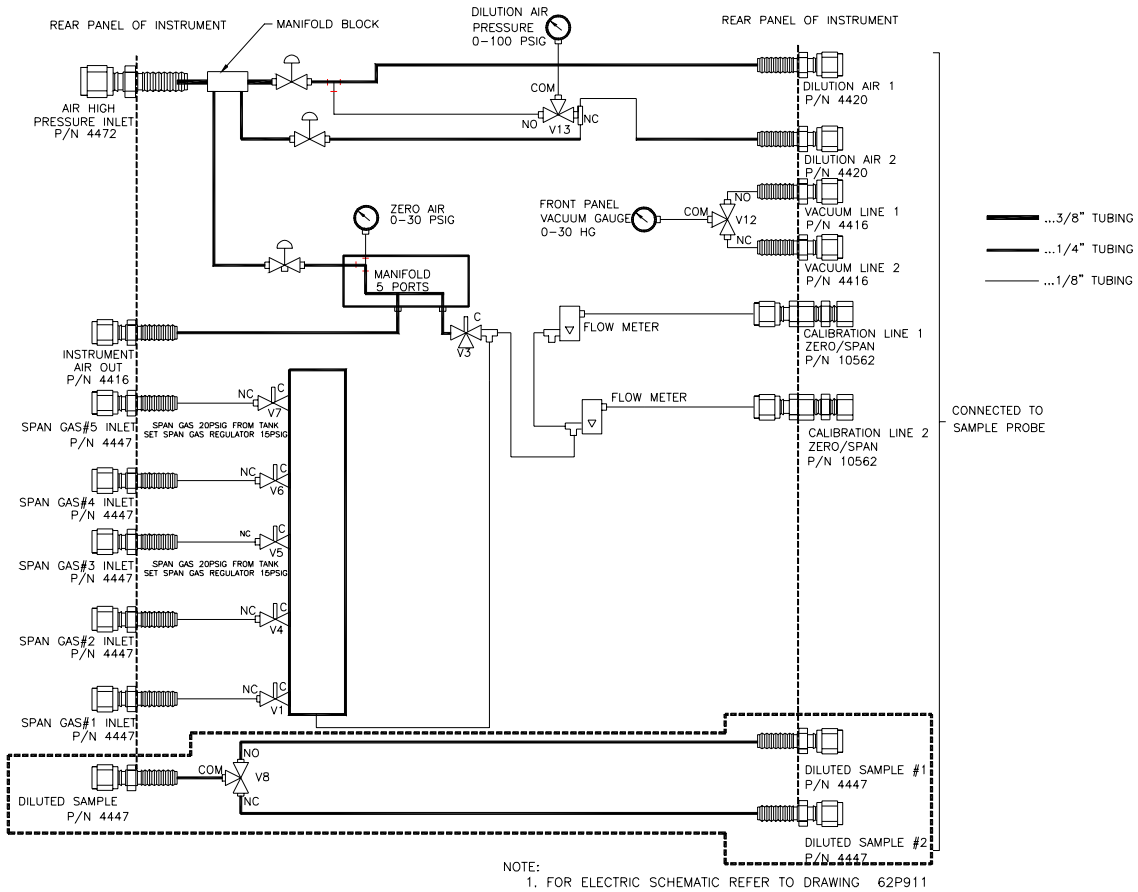

Figure 3-6. Dual Plumbing Diagram
The dual probe controller has additional valves to control the indication of the probe vacuum and dilution air pressure gauges and to select the source of dilute sample gas. A voltage of 24 Volts switches the valves from common to either normally OPEN or normally CLOSED. With no potential across the valve, then the path of the valve would go from common to normally OPEN (NO). With a potential of 24 Volts across the two leads of the valve, then the flow through of the valve would be from common to normally CLOSED (NC). Refer to flow diagram Figure 3-6. In a de-energized state, the indications and sample selected will be from dilution probe one.
Figure 3-6 illustrates the Model 200L plumbing diagram in detail. Figure 3-6 is a flow diagram for a dual probe configuration with sample switching, i.e., two sample points and only one set of instruments.